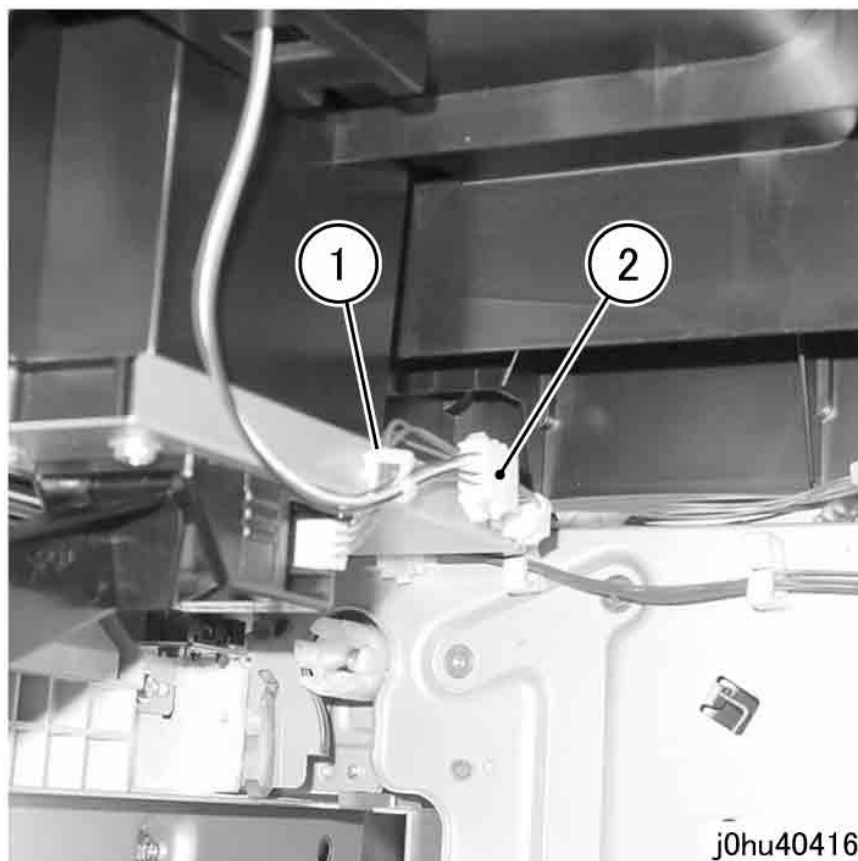

Figure 1 Disconnect the Connector
4. Disconnect the connector (Figure 1).